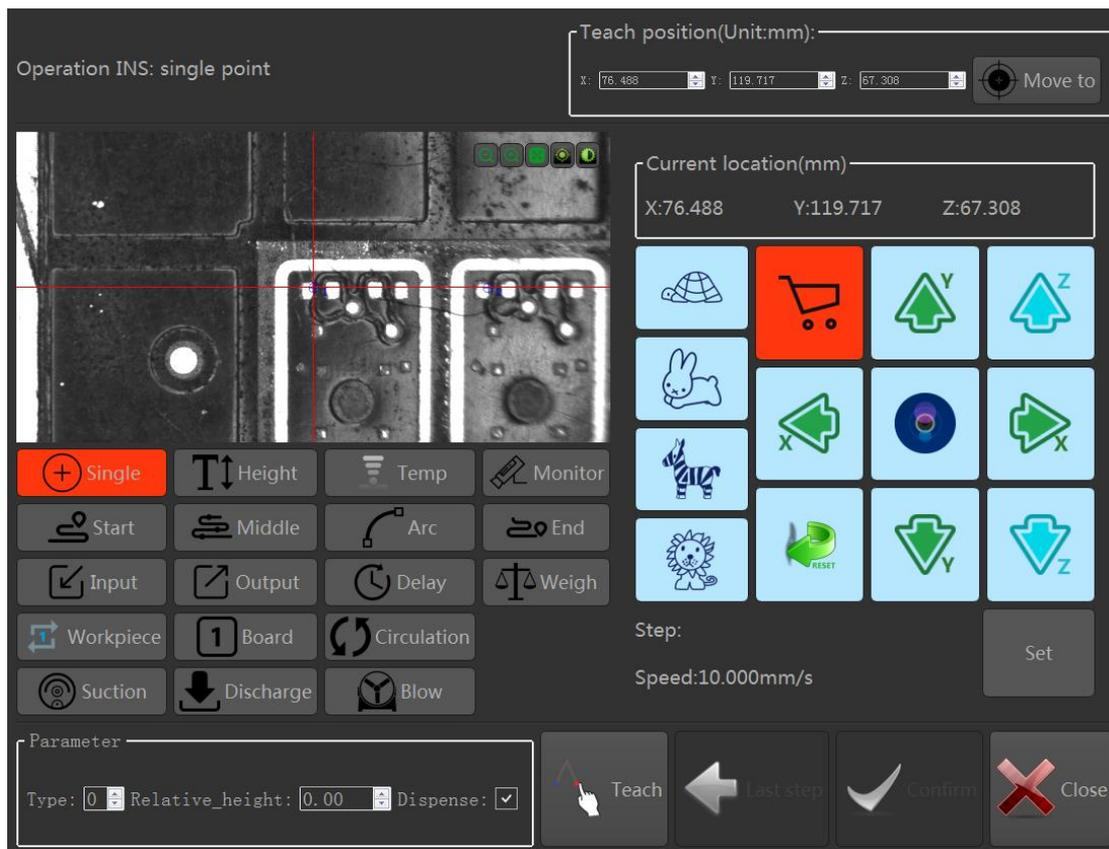

Fig. 5-3-16 Task teaching
(2)Edit track point: Select the track instruction, and click the “Edit” button to pop up the editing interface, as shown in Figure 5-3-16; You can modify the point type, point location coordinates, whether the glue is out, point parameter type and other information.